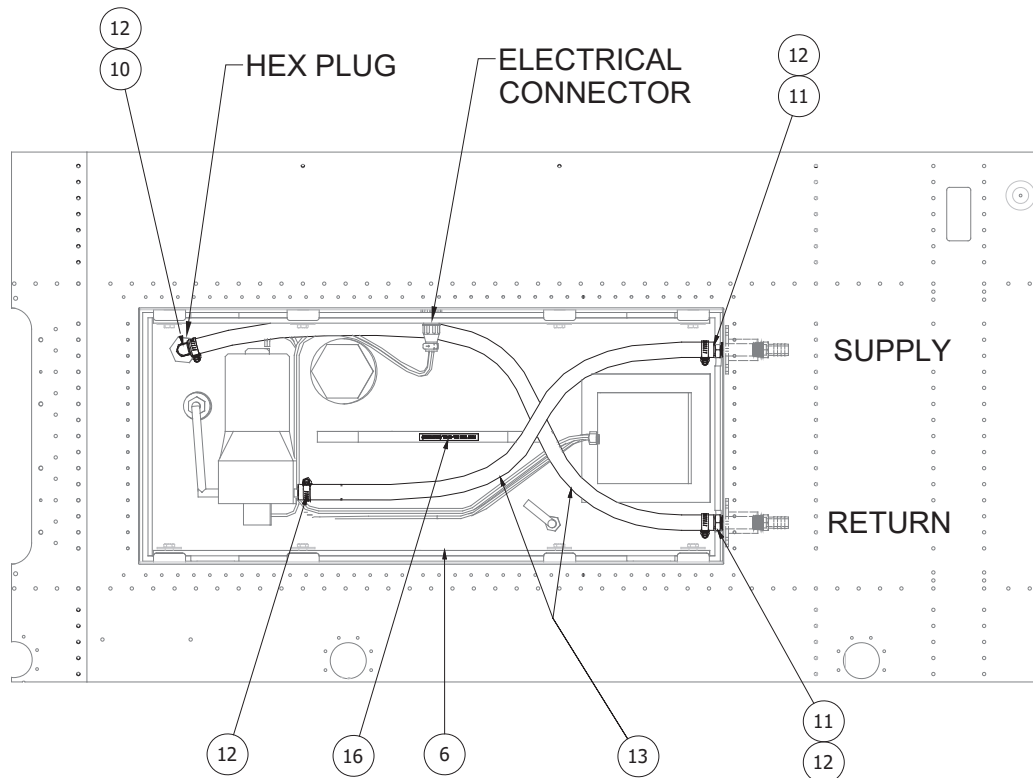

Figure 11
1. Apply Teflon tape to the barbed fitting and install the fitting on the front side of the tube coupler per Figure 11.
2. Connect the Supply tubing between the tank pump and the barbed fitting with noted clamps per Figure 11.
1. Remove the hex plug from the tank from the tank shown in Figure 11, drill a 37/64" hole in the center of the plug and tap with a 3/8-18 NPT tap. Apply Teflon tape and reinstall it into the tank.
2. Apply Teflon tape to the threads on the elbow fitting and install into the hex plug in the orientation shown in Figure 11
3. Connect the Return tubing between the elbow fitting and the barbed fitting with noted clamps per Figure 11.
1. Connect the tank wiring to the baggage lip electrical connector per Figure 11.
1. Install the placard as shown in Figure 11.